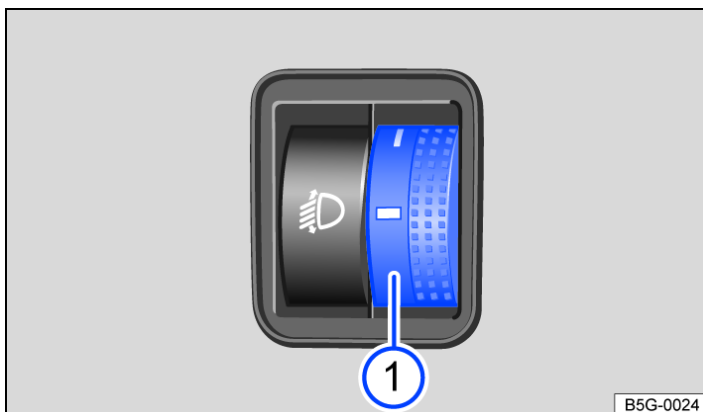
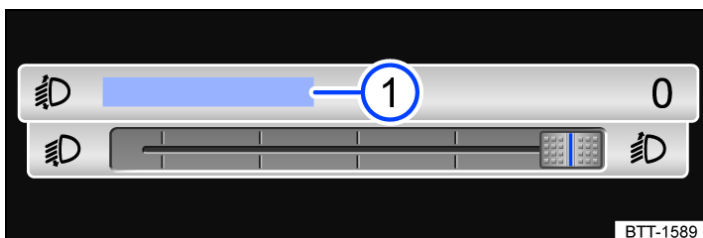

Fig. 1 Next to the steering wheel: control for headlight range control ①.
Fig. 2 In the Infotainment system: touch slider for headlight range control.
With some equipment levels, the headlight range can be adjusted either with the control → Fig. 1 or with the touch slider in the Infotainment system → Fig. 2.
→ Fig. 2 .
- Turn the control → Fig. 1 to the required position(example vehicle load level).